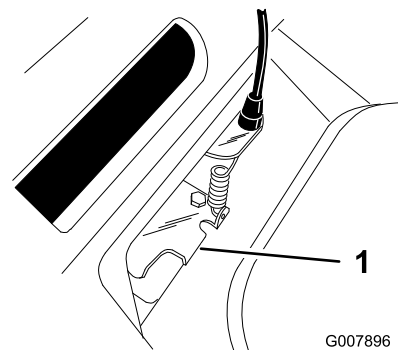

Figure 29
5. Push the belt guide tab down until it contacts the lawn mower, then hold it in place (Figure 29).